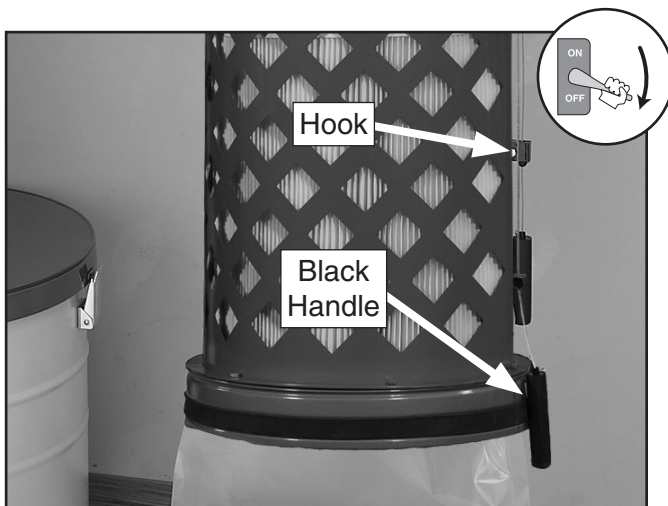

Figure 62. Black handle cable secured in the handle hook.
3. Pull the black handle all the way down and secure the cable into the handle hook at the bottom of the canister assembly, as shown in **Figure 62**, to hold it in place during the following steps.